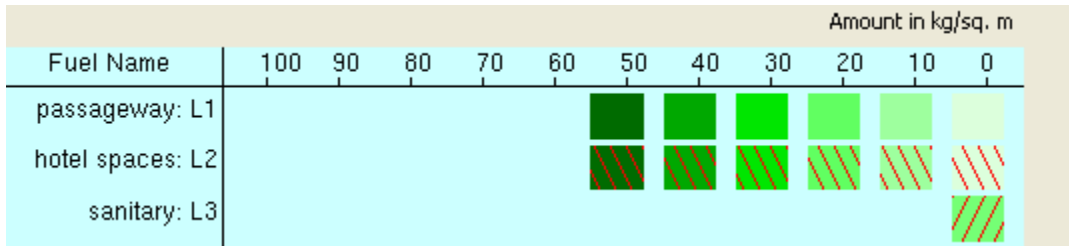

Figure 10-14 Usetypes represented with color, patterns, and shades of color
In the FireGUI, we use a combination of color, pattern, and a shade of the color to represent a *usetype*. The color represents the major type of the fuel. For example, Living Space (L) is green, General Stores (A) is red, and Command and Control (C) is orange. The pattern represents the minor or subtype of a fuel. 1 is shown with no pattern, 2 with diagonal lines sloping downward to the right, 3 with diagonal lines sloping downward to the left, as well as other patterns. The shade of the color represents the amount of the fuel (the darker the shade, the higher the amount). For example, the values 40, 30, and 20 of fuel L1 may be assigned dark green, medium green, and light green, respectively. Figure 10-14 shows color, pattern, and shade combinations for Living Spaces (L).